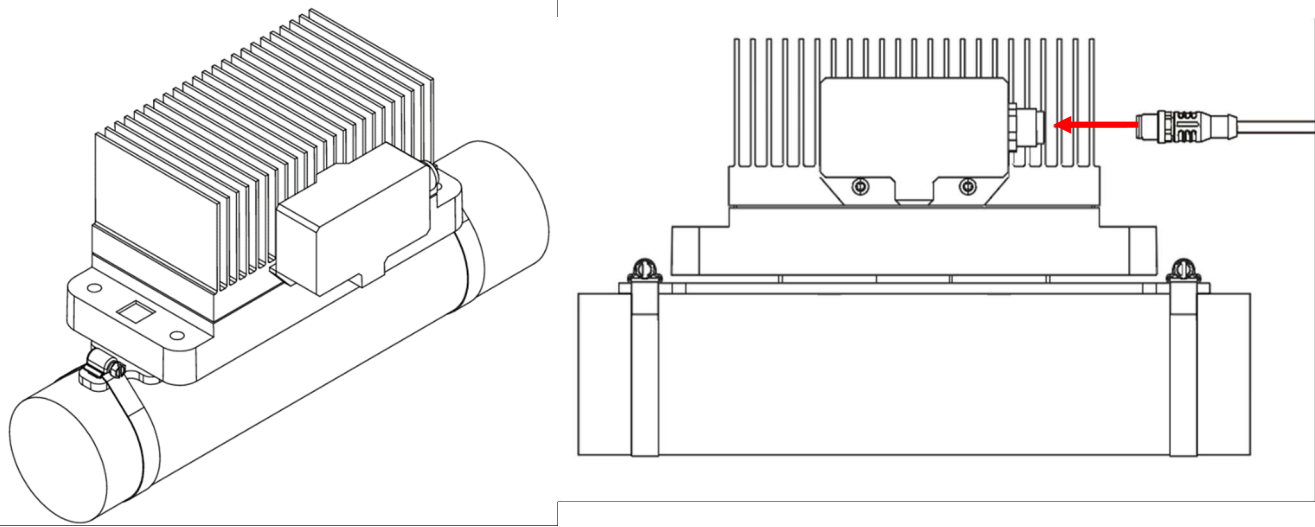

Figure 15.- Power supply (Thermoelectric generator – Tube mounting) connection
- Insert and screw the male cable connector to the Thermoelectric generator output power supply connector, as shown in Figure 15.